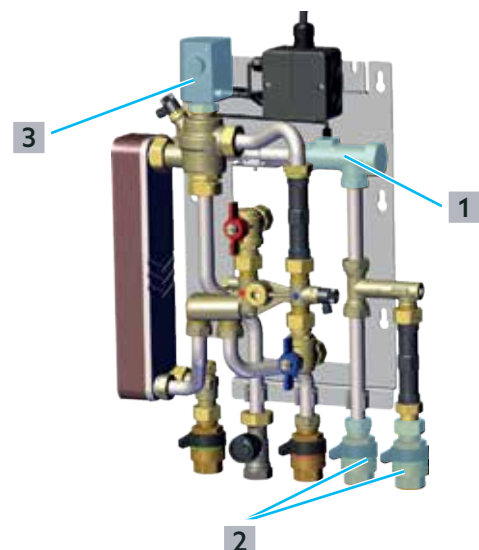

Fig. 20: Inspecting and cleaning the volume flow sensor
- ▶ Rule out causes that are easy to determine, e.g. de-energised actuator ((3) in Fig. 20 on page 29) or missing contact of the signal line of the volume flow sensor.
- ▶ Check the volume flow sensor (1) for contamination by tapping potable water and observing the indicator light on the actuator:
- 1 Close the ceramic disc valves ((2) in Fig. 20 on page 29) in the cold water inlet and cold water outlet in the potable water circuit.